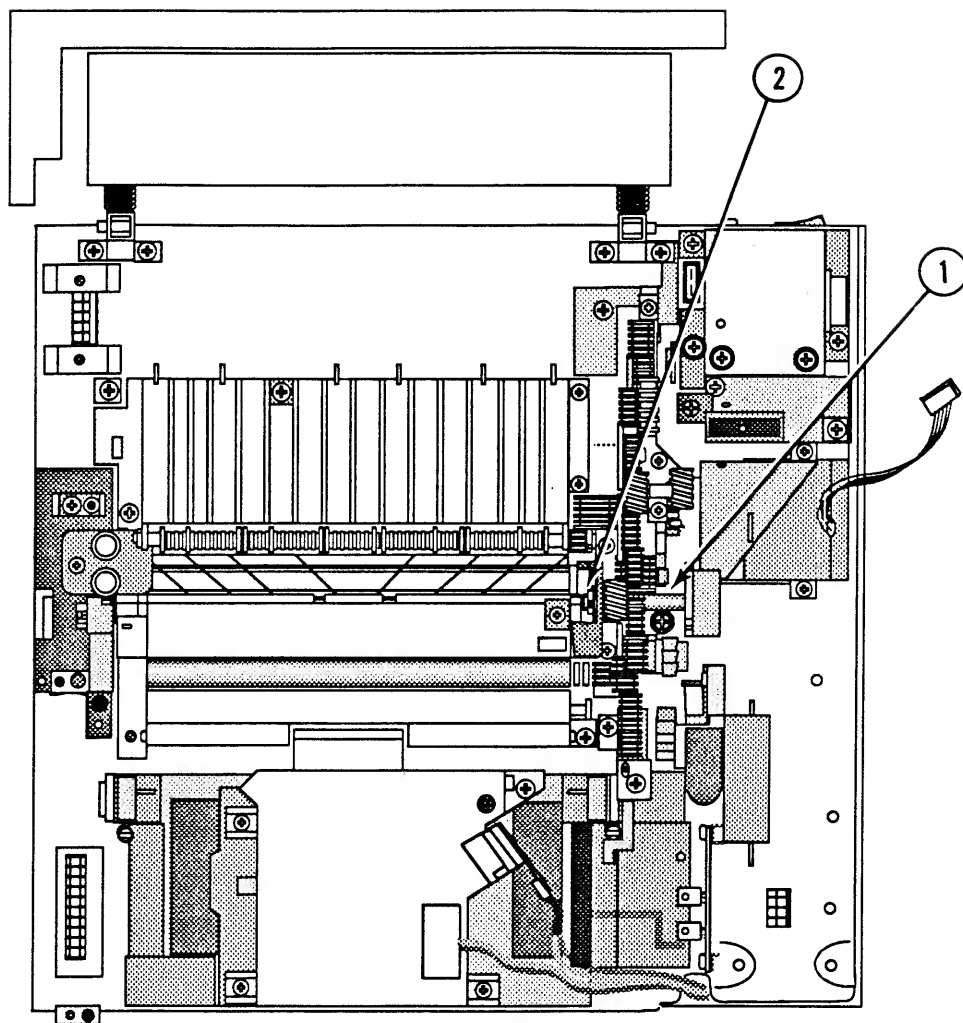

FIGURE 54
3. Slide the drum drive shaft (Figure 54, #1) toward the rear of the printer. You need to align the pins on the shaft with the openings in the cassette holder.
2. Slide the drum drive shaft into the bearing (Figure 54, #2) and replace the C-ring at the end of the shaft.